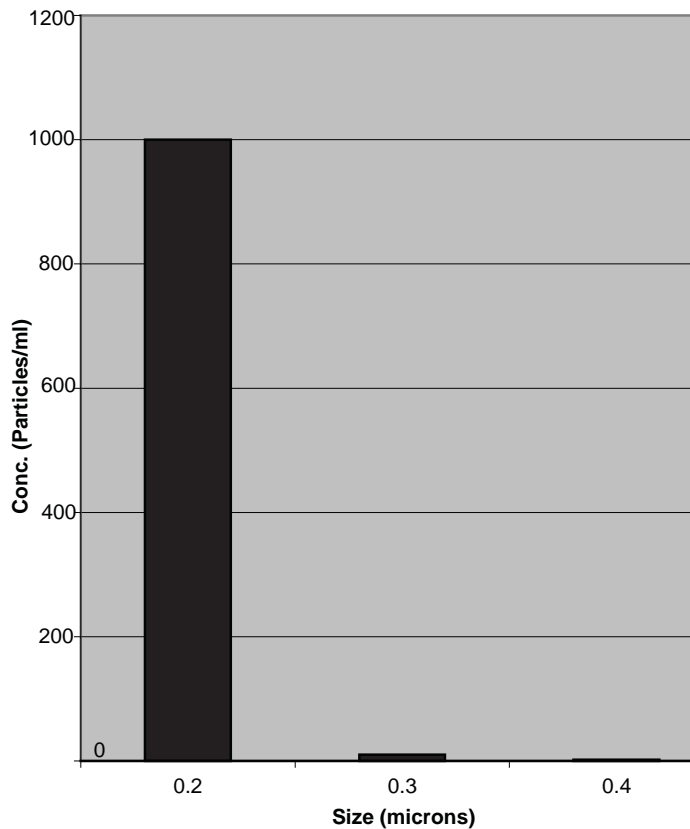

Figure 2: Excessive Background Scatter
- Often the data will indicate excessive scatter. If the amount of scatter from contamination equals the amount of scatter from the smallest detectable particle size, there will be an excessive number of counts in the first channel. One will often see hundreds to thousands of counts in only the first channel on known clean DI water with zero to little counts in the other size channels, as shown in Figure 2.